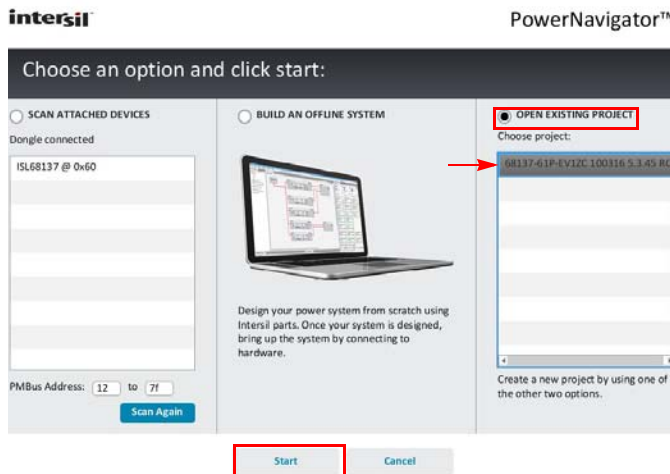

FIGURE 5. LAUNCH PowerNavigator™
6. Launch PowerNavigator™. Device should be discovered by PowerNavigator™. Select "Open Existing Project" (Figure 5).